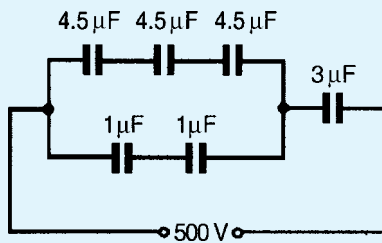

Figure 6.11
- For the arrangement shown in Fig. 6.11 find (a) the equivalent circuit capacitance and (b) the voltage across a  $4.5 \mu\text{F}$  capacitor.